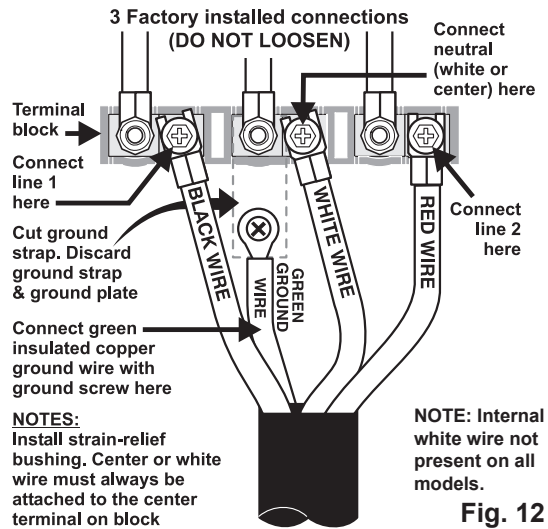

Fig. 12
5A. POWER CORD CONNECTIONS (4-Wire Connection Instructions - Refer to Fig.12)
4. Connect the ground wire (Green) lead with the eyelet to the frame of the appliance with the ground screw using the same hole in the frame where the ground screw was originally installed (See Fig. 12).